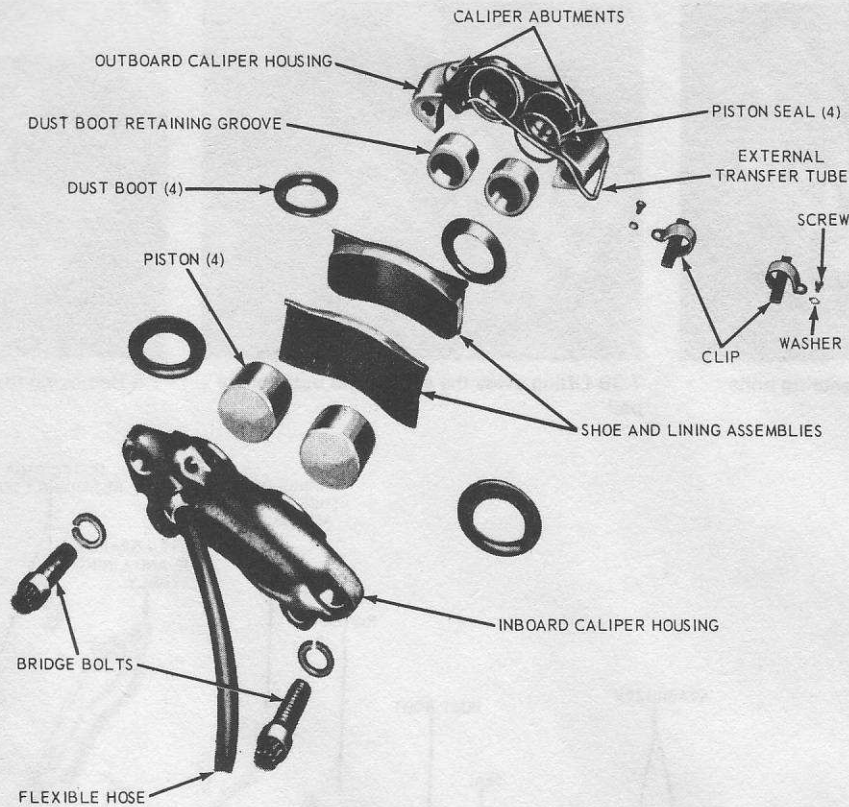

Fig. 9.3 Exploded view of fixed caliper type brake (Sec. 6)
- 9 Remove the bridge bolts holding the caliper assembly together and separate the two halves (see Fig. 9.3).